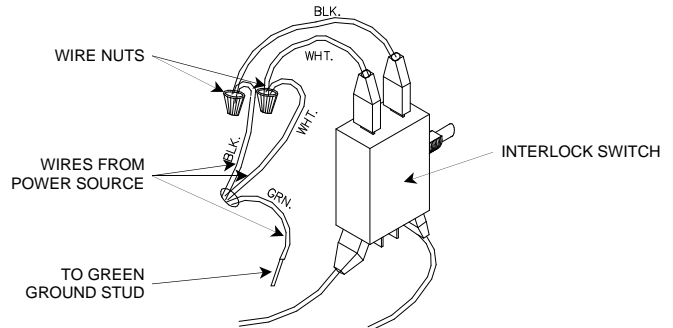

FIGURE 1
5. Cut power cord six (6) inches from interlock switch, strip insulation back 1/2" and, using wire nuts, connect black and white wire from conduit to interlock (**Figure 1**).